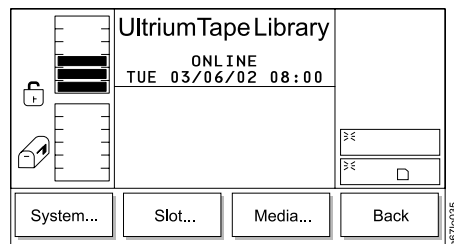

Figure 96. Library Submenu
2. Press the button below the **Library** softkey. The Library Submenu displays (see Figure 96).